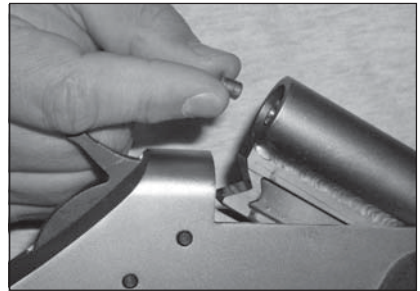

Figure 6
14. **WITH GUN POINTED IN SAFE DIRECTION** and hammer in the forward/rested position, place a 209 primer into the breech plug. **THE GUN IS NOW LOADED.**(See Figure 6).